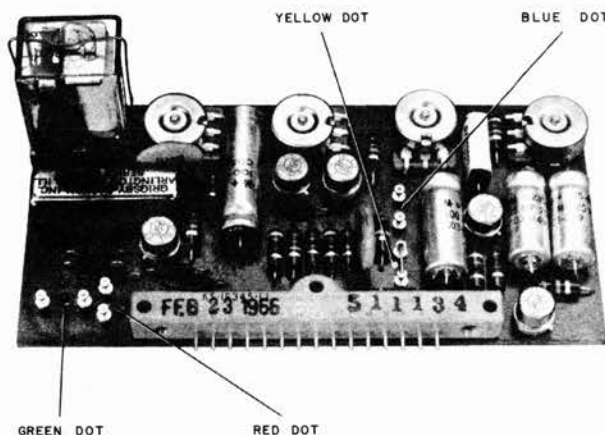

FIGURE 9 VOICE CONTROL STRAPPING OPTIONS
- b. To disable the Voice Control circuit, solder a strap between the Blue Dot terminals (fig. 9).
- c. To disable the Calling Party Control circuit, solder one strap between the Red Dot terminals, and another strap between the Green Dot terminals (fig. 9).
The talk-down tone warns the calling party 8 seconds before the Voice Control disconnects. To disable the talk-down tone, remove the strap that is soldered between the Yellow Dot terminals (fig. 9).